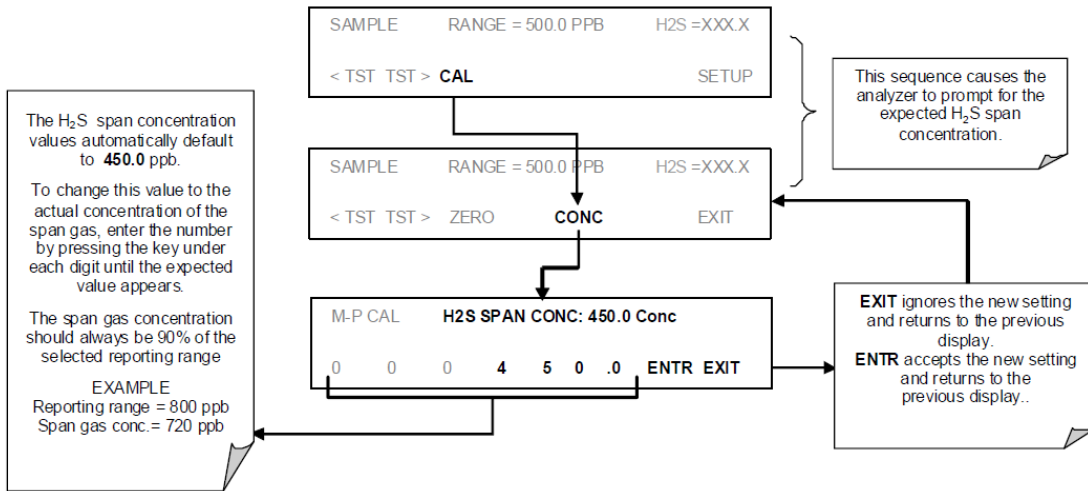

Figure 7.2 Button sequence to set the span gas concentration
- 7.2.2 Set the expected H₂S span gas concentrations by pressing the button sequence in Figure 7.2. In this example, the instrument is set for single range mode with a reporting range span of 500 ppb.